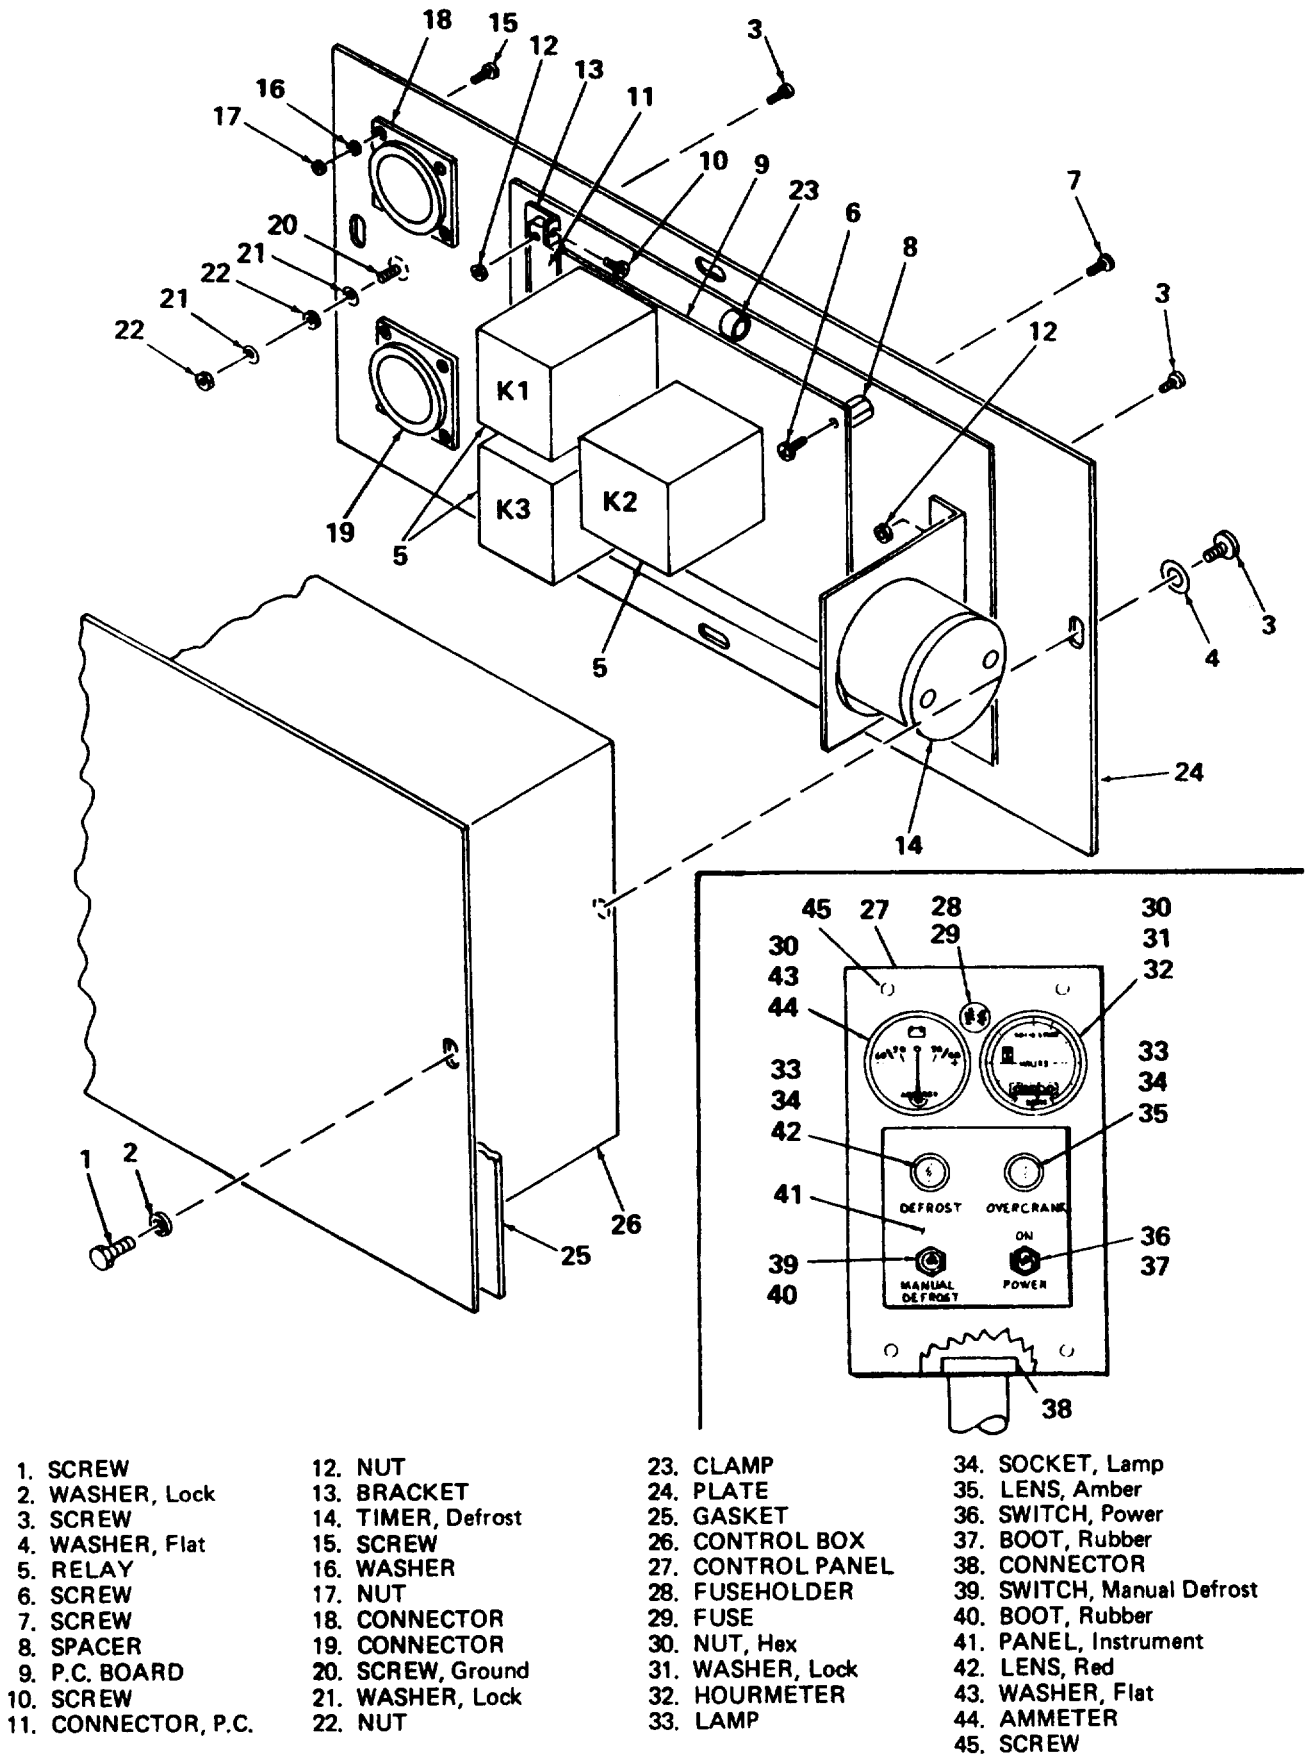

Figure 4-5. Control Box and Control Panel (RGMD-K/1-10)
- a. Remove two screws and washers (1 & 2, fig. 4-5) holding control box assembly (26) to unit.
- c. Remove four screws (3) from backplate of control box to expose components for possible replacement.